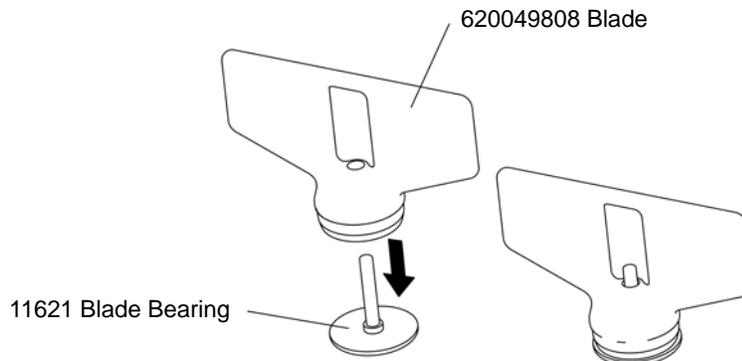

Figure 10
3. Check that the blades are positioned and spins freely on the bearing. Sugar and solids can crystallize around the blade area and cause the blade to bind. Frequent washing eliminates this problem. See Figure 10.